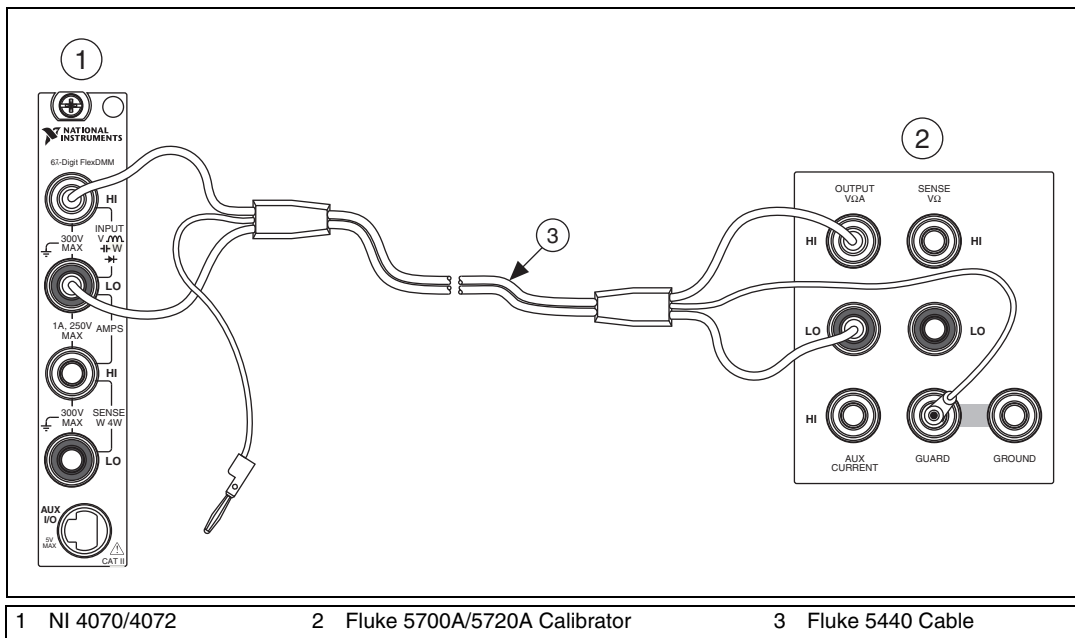

Figure 1. Cable Connections for Voltage and 2-Wire Resistance
22. Fasten the connectors on one end of the Fluke 5440 cable to the appropriate banana plug connectors of the NI 4070/4072, and fasten the connectors on the other end of the cable to the appropriate calibrator binding posts. Figure 1 shows the correct connections. Table 2 lists the cable connections.